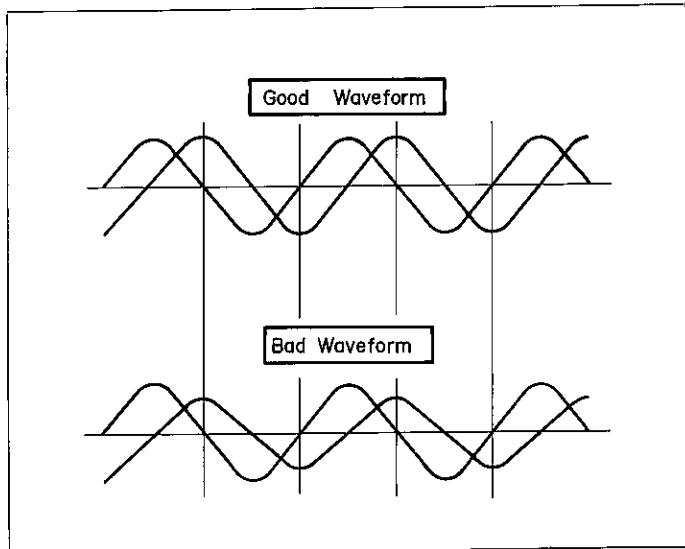

Figure 42
1. Connect one end of a dual-beam synchroscope, on the control PWB, between pin ⑬ (GND) and pin ⑧ and another between pin ⑬ (GND) and pin ⑦.
2. Turn the variable resistors VR2 and VR3 to generate two waveforms and adjust so that these two will have symmetry vertical, as shown in Figure 42.